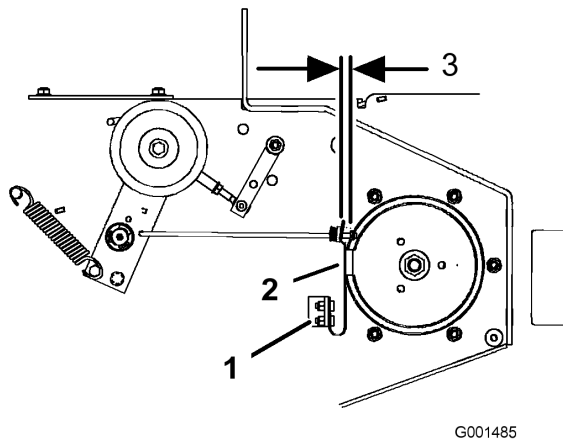

Figure 61
3. If necessary, adjust the spring mounting bolts so that the blade brake pad rubs against both sides of the pulley groove (Figure 61).
4. Adjust the nut at the end of the blade brake rod until there is 1/8-3/16 inch (3 mm -5 mm) between the nut and spacer (Figure 61).